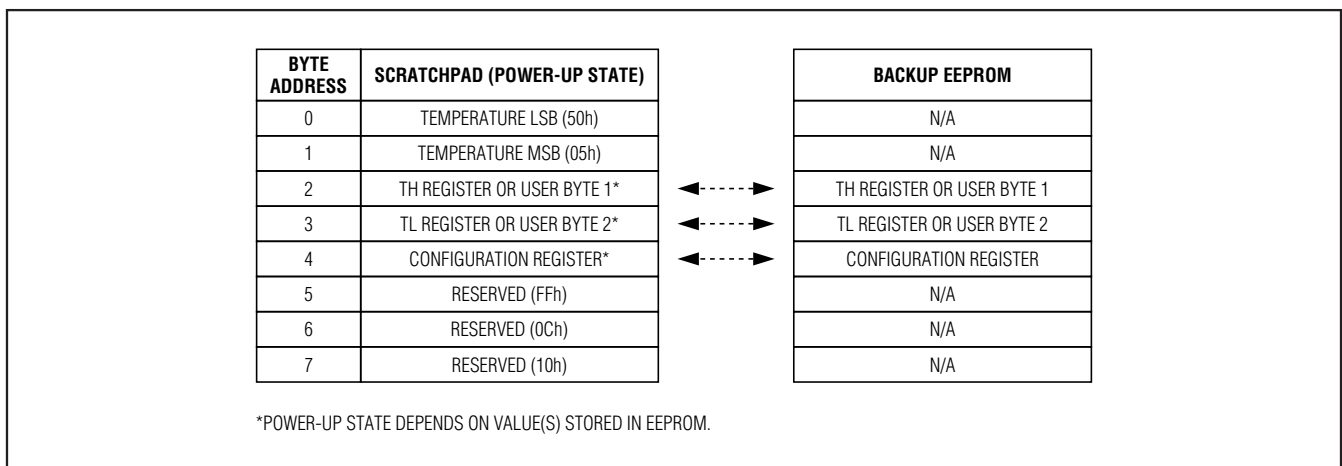

Figure 4. Memory Map
The memory map of the DS28EA00 is shown in Figure 4. It consists of an 8-byte scratchpad and 3 bytes of backup EEPROM. The first 2 bytes form the Temperature Readout register, which is updated after a temperature conversion and is read only. The next 3 bytes are user-writable; they contain the Temperature High (TH) and the Temperature Low (TL) Alarm register and a Configuration register. The remaining 3 bytes are "reserved." They